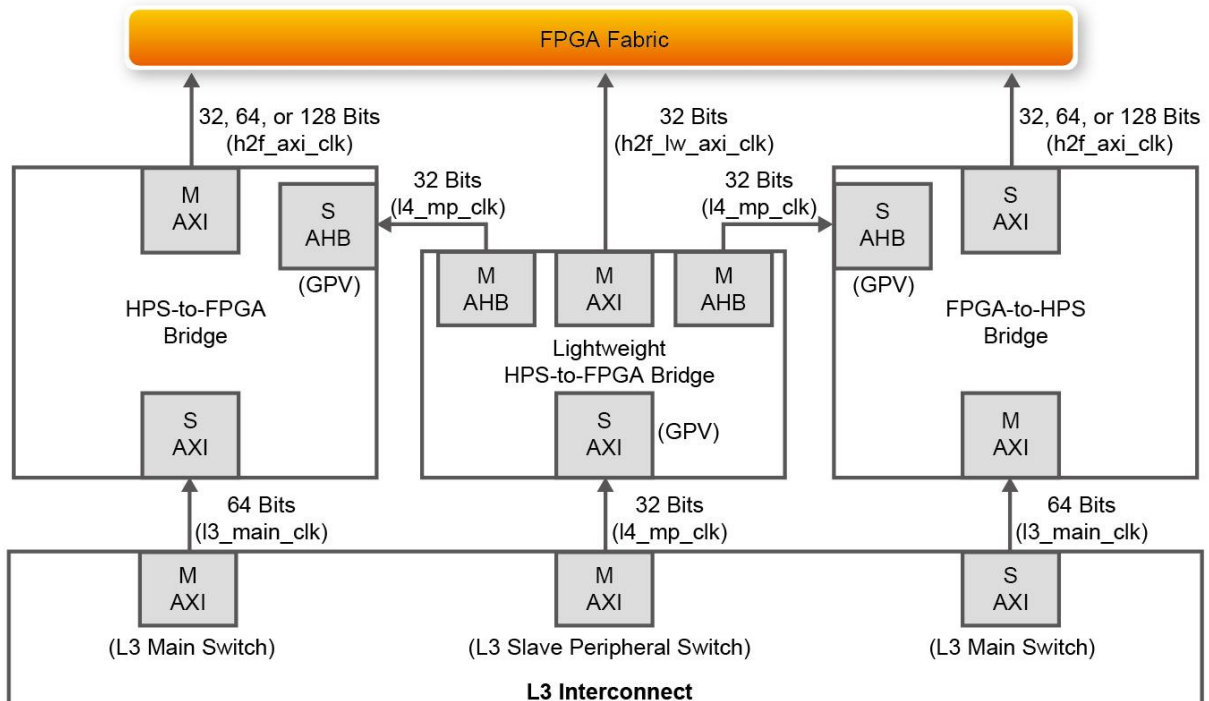

Figure 1-1 AXI Bridge Block Diagram
Figure 1-1 shows a block diagram of the AXI bridges in the context of the FPGA fabric and the L3 interconnect to the HPS. Each master (M) and slave (S) interface is shown with its data width(s). The clock domain for each interconnect is noted in parentheses.